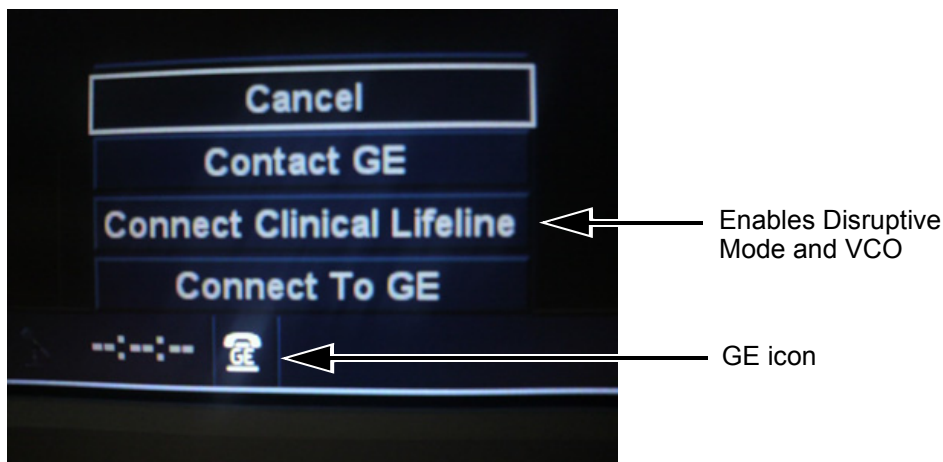
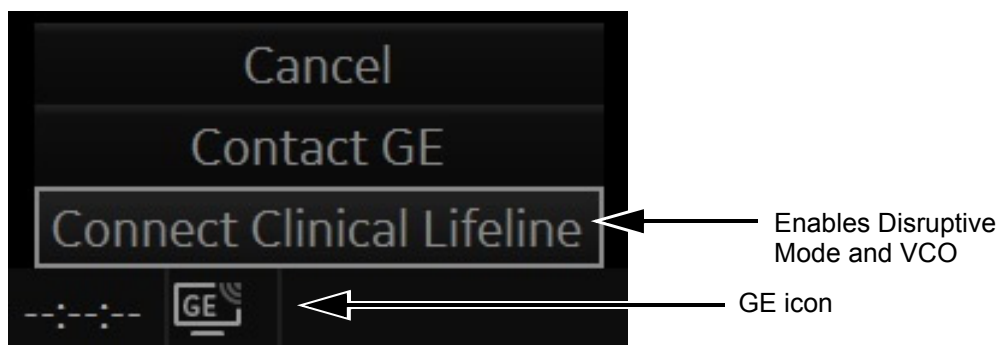

Figure 5-15 Connect Clinical Lifeline (R1, R2, R2.5 only)
Figure 5-16 Connect Clinical Lifeline (R3 only)
- 3) Select **Connect Clinical Lifeline** (see: Figure 5-15 on page 5-25 (R1, R2, R2.5 only) or Figure 5-16 on page 5-25 (R3 only) below).